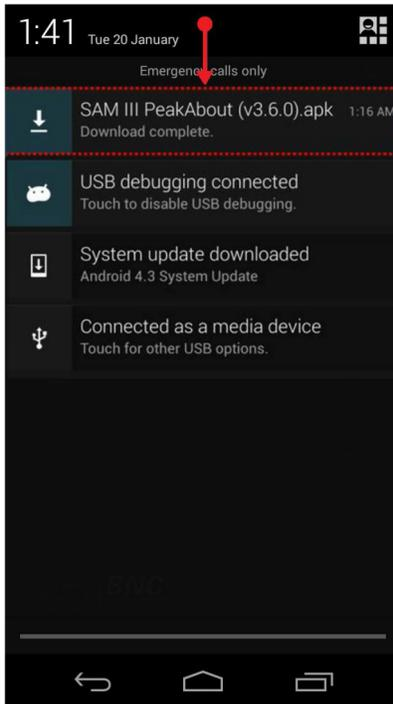

Figure 4.39. PeakAbout software upgrade, step 3
3. Open the status menu of the smartphone by touching and dragging the top menu bar (Figure 4.39).